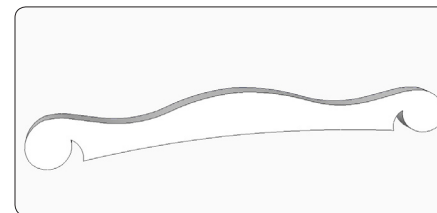

Figure 27. The completed crest rail, properly bent and angled.
Step 4 Copy the half rail, execute a Flip Along command, and use the Move/Copy Tool to join the two shapes at the middle. To hide the centerline, use the Eraser Tool while you press the Shift key. Figure 27 shows the completed crest rail.